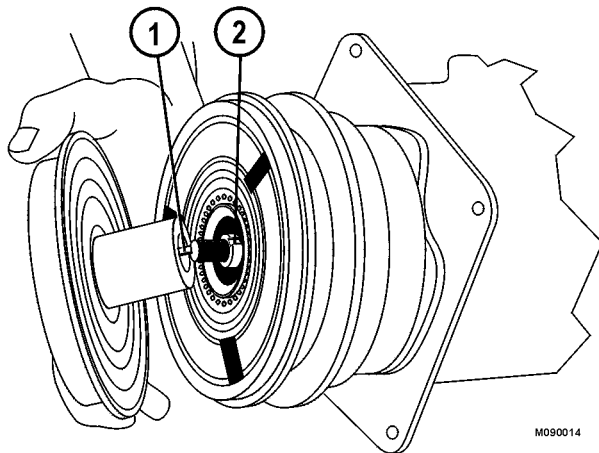

FIGURE 4-20.
5. Remove square key (1, Figure 4-20) from the keyways.
1. Insert square key (1, Figure 4-20) into the keyway in the clutch hub. Allow the key to protrude about 4.5 mm (0.18 in.) from the outer edge of the hub. Use petroleum jelly to hold the key in place.